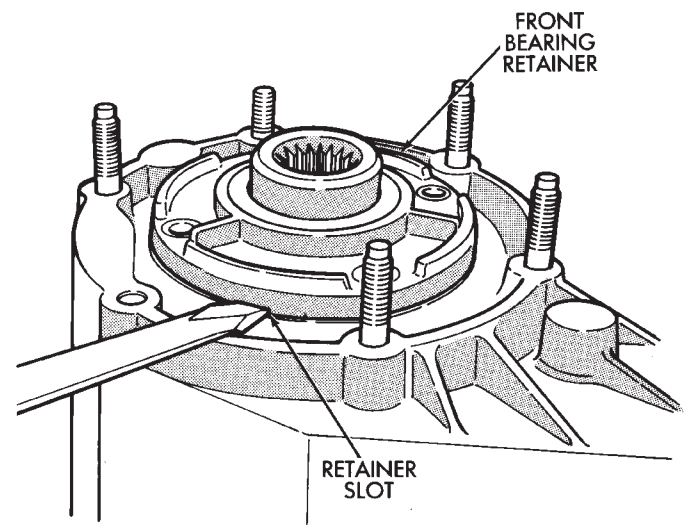

Fig. 32 Front Bearing Retainer Removal
(2) Remove front bearing retainer. Pry retainer loose with pry tool positioned in slots at each end of retainer (Fig. 32).